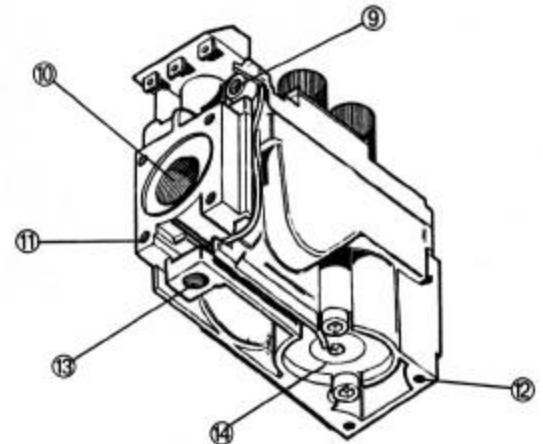

Figure 7
(Location of the valve post connections can be found by opening the bottom center grill on the front of the unit. Also refer to *Figure 7 on page 11.*)
The supply line pressure is tested, to ensure it meets minimum pressure requirements, as listed in the Specifications sections of this manual, for the type of fuel in use (NG or LP). The unit must be isolated from the gas supply piping system by closing its individual manual shutoff valve during any pressure testing of the gas supply piping system at test pressures equal to or less than 1/2 psig. During tests in excess of 1/2 psig. (14" w.c.), the heater must be disconnected from the gas supply system. Test by connecting a manometer to the supply line. Adjust the incoming pressure, if necessary, to meet the required supply line pressure. Once connected to the gas supply, the gas inlet pressure and manifold gas pressure must be tested. The gas inlet tap (6) and manifold pressure tap (7) is located on the control valve (see Figure 7). Connect a manometer to the test points on the gas control valve, refer to #'s 6 & 7 of Figure 7 for locations.